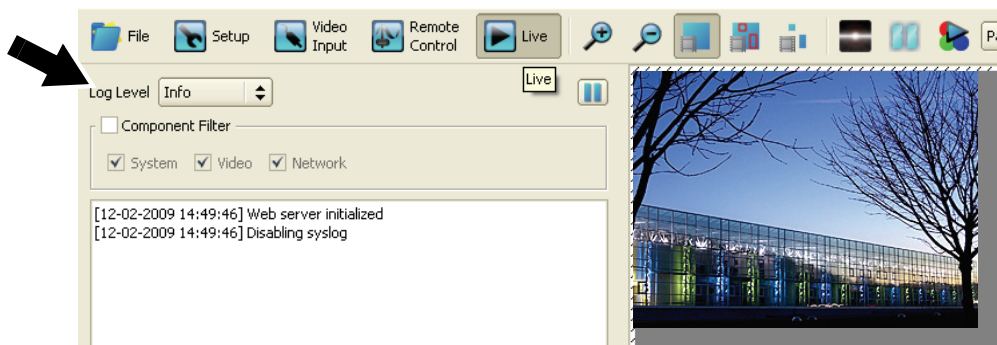

Figure 26: Live window
- See Figure 26. Open the **Live** window and select **Info** under **Log Level** (arrowed). The P3-100 keeps a running log of system events that can be very useful during troubleshooting.